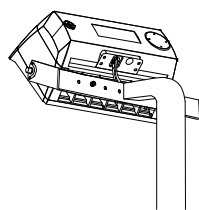

Figure 13
STEP 2: Knock the expansion bolts into the wall. (FIGURE 13)